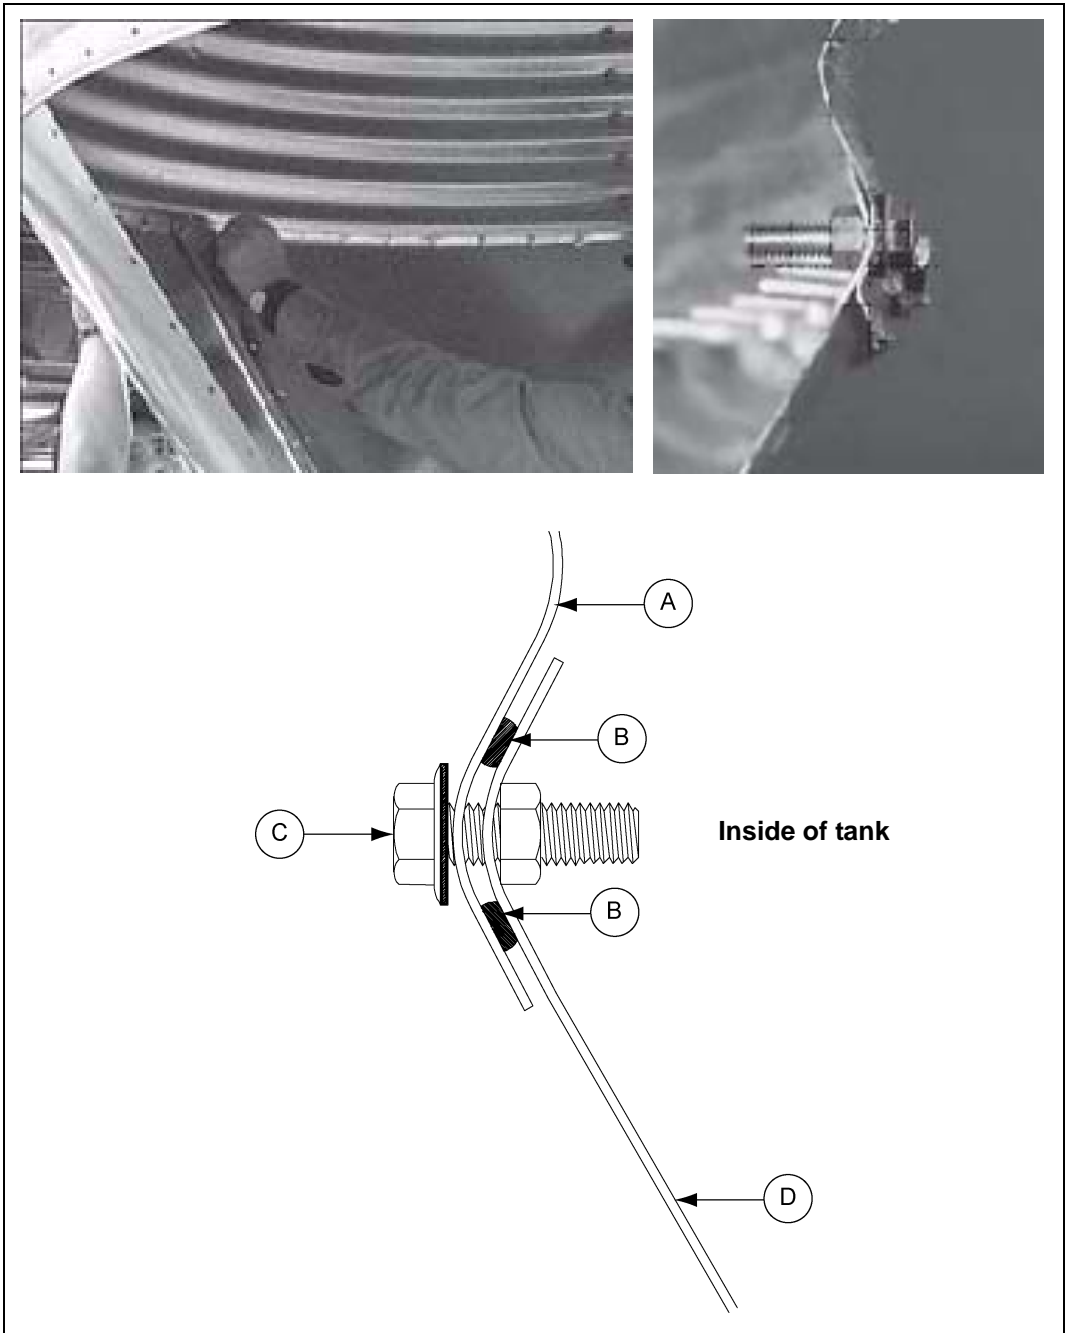

Figure 11B Hopper Sheet to Sidewall Sheet
When starting to attach hopper sheets to sidewall it is recommend that the first hopper sheet seam be positioned halfway between leg positions. Lap the hopper sheets as shown in Figure 11B on Page 56. Apply two (2) strips of caulking on all seams at sidewall to hopper and hopper sheet to hopper sheet. Be sure to place the head of the truss bolt on the **inside** of hopper. Leave one hopper sheet out to allow room to install hopper collar. Be sure to use two (2) strips of caulking between hopper collar and hopper sheets, then put last hopper sheet in place.